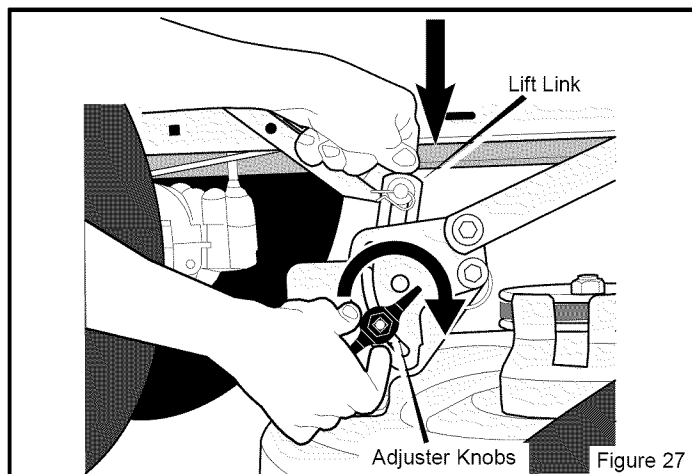

Figure 27
6. Loosen the left and right **adjuster knobs** (Figure 27). Push down on each side of the mower housing. Make sure both sides of the mower housing are setting on a flat surface. Also, make sure the lift links are loose and can easily move up or down.
7. Push down on the **lift links** and tighten the left and right **adjuster knobs** (Figure 27). Make sure the **adjuster knobs** are tight. If necessary, use a wrench to tighten the **adjuster knobs**. For plastic **adjuster knobs**, tighten to a torque of 7 foot pounds (9,5 N-m). For metal **adjuster knobs**, tighten to a torque of 10 foot pounds (13,5 N-m).